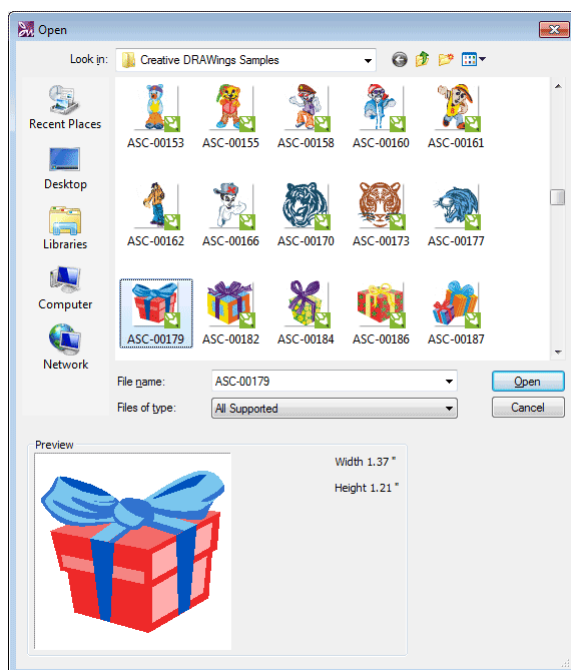

Figure 2.3: Open design dialog
7. The **Open** dialog box will appear (Figure 2.3) from where you can find the design you want to embroider.
11. Inside the **Creative DRAWings samples** folder you will find ready-made **Vector** (clipart) designs that you can import into **Creative DRAWings** and convert them to stitches. You can select to embroider any of them but for our example we will use the **ASC_00179.cmx** file as it is shown in the Figure 2.3